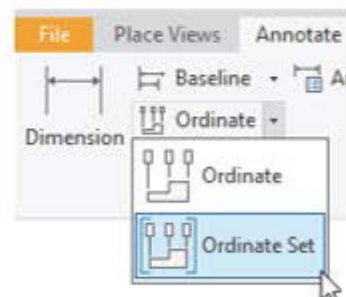

Figure 26–67
4. Which of the following best describes the **Ordinate Set** command, as shown in Figure 26–67?